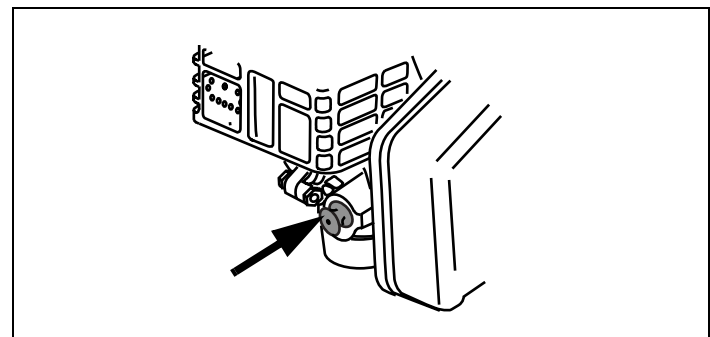

Figure 28. OH195EA/EP/XA/XP Primer Bulb
3. When starting a cold engine, push primer bulb firmly with your thumb 3 times, allowing primer bulb to return completely to original position between pushes. See Figure 28.